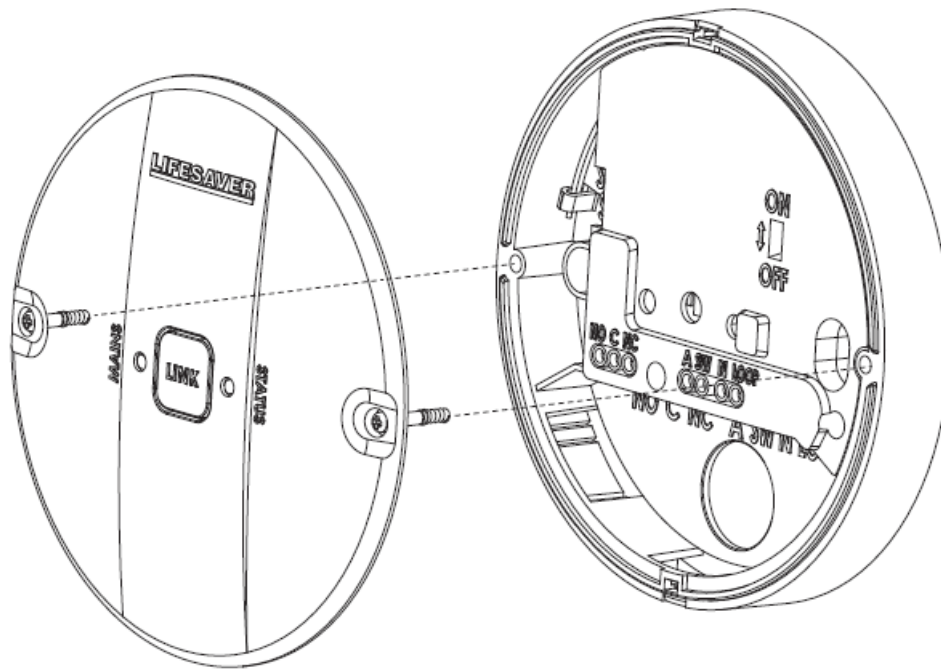

Figure 5
- After the cables are connected, re-install the module cover. See Figure 5 below.